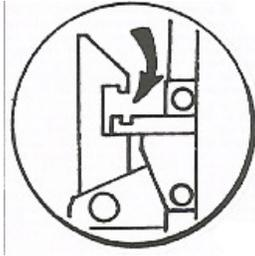

Figure 3.
- Push the **UP** button until the safety hooks disengage from the safety shelf. (Figure 3.)